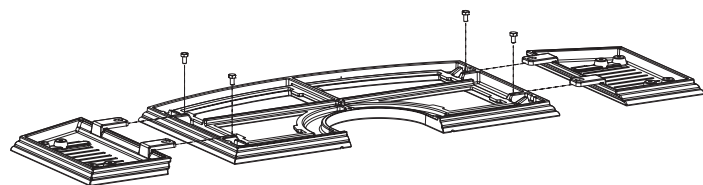

Figure 34
4. Place left and right side shelves in place shown in **Figure 34**.
NOTE: Due to inherent properties of the casting process, non-combustible shims may be required to level accessory side shelves to the casting top. These shims are provided in the form of washers to be used on either side of the bolts. **See Figure 34.** If accessory shelf angles downward, toward the floor, washer(s) will need to be added to the center side of the bolt. Conversely, if the accessory side shelf angles upward, toward the ceiling, washer(s) will need to be added to the outside of the top casting side of the bolt. **See Figure 37.**